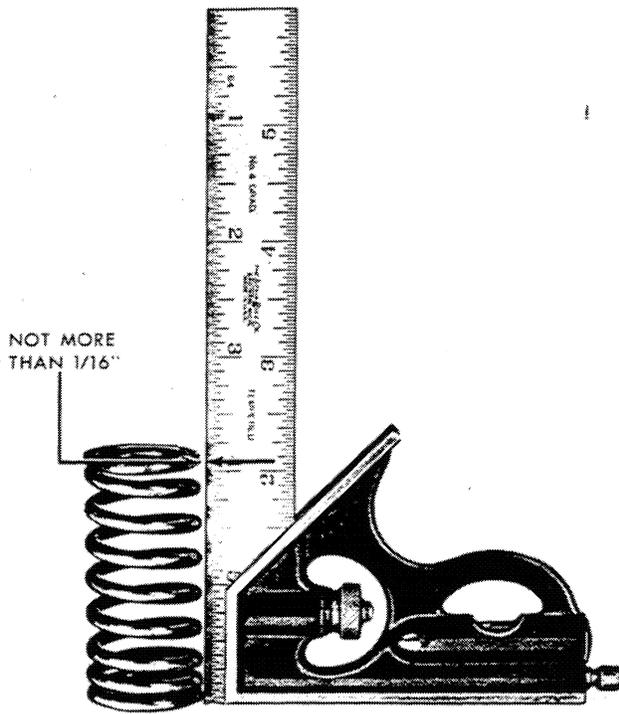

Figure 10
3. Discard valve springs that show evidence of rust. Check each valve spring for squareness as shown in Figure 10. Discard valve springs that are in excess of 1/16" of being square. Check the spring pressure.